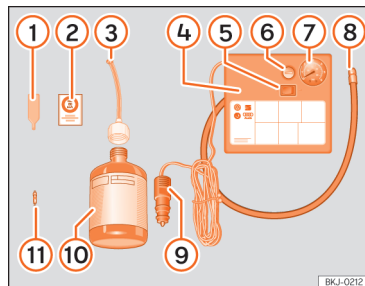

Fig. 193 Standard display: contents of the anti-puncture kit.
The anti-puncture kit is located underneath the floor covering in the luggage compartment. Includes the following components »» Fig. 193:
- Unscrew the tyre valve cap and insert. Use the device >>> Fig. 193 ① to remove the valve cap. Place it on a clean surface.
- Shake the tyre sealant bottle vigorously >>> Fig. 193 ⑩.
- Screw the tyre inflation hose >>> Fig. 193 ③ into the tyre sealant bottle. The bottle's seal will break automatically.
- Remove the filler cap >>> Fig. 193 ③ and screw the open end of the tube into the tyre valve.
- Replace the howitzer with the device >>> Fig. 193 ① onto the tyre valve.
- Screw the tyre inflation tube of the compressor >>> Fig. 193 ⑧ on the tyre valve.
- Check that the air evacuation screw is closed >>> Fig. 193 ⑥.
- Attach the connector >>> Fig. 193 ⑨ to the vehicle's 12 volt power outlet >>> page 174.
- Switch on the air compressor with ON/OFF switch >>> Fig. 193 ⑤.
- Attach the sticker >>> Fig. 193 ② to the instrument panel display, within the driver's field of vision.
Screw in the inflator tube >>> Fig. 193 (8) again and check the pressure on the gauge (7).